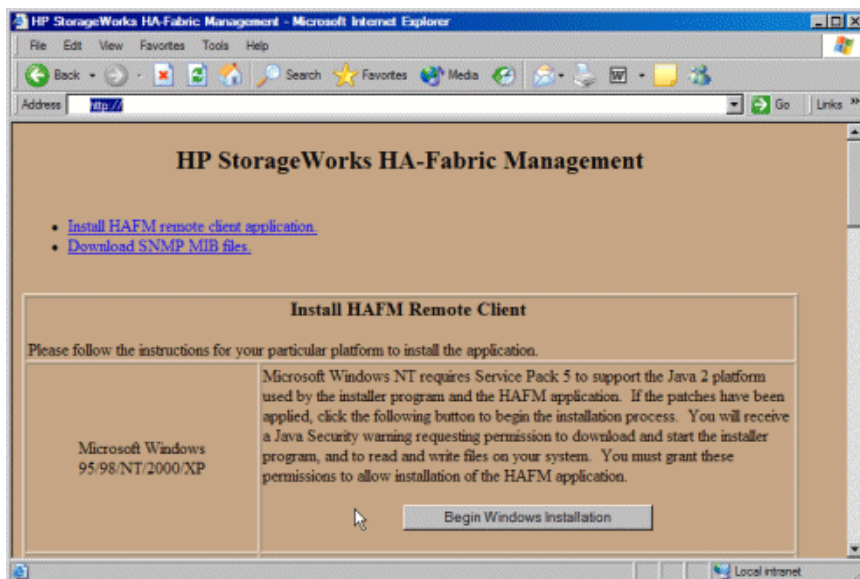

Figure 35: HAFM remote client install
4. The HAFM splash screen displays with the following options, see Figure 35.